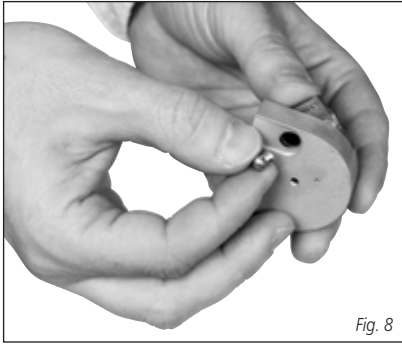

Fig. 8
3. Spin the aluminum side counter-clockwise to release the cover from the catch point. Then insert the pellet in backwards (skirt first) into the first location. (Fig.8)